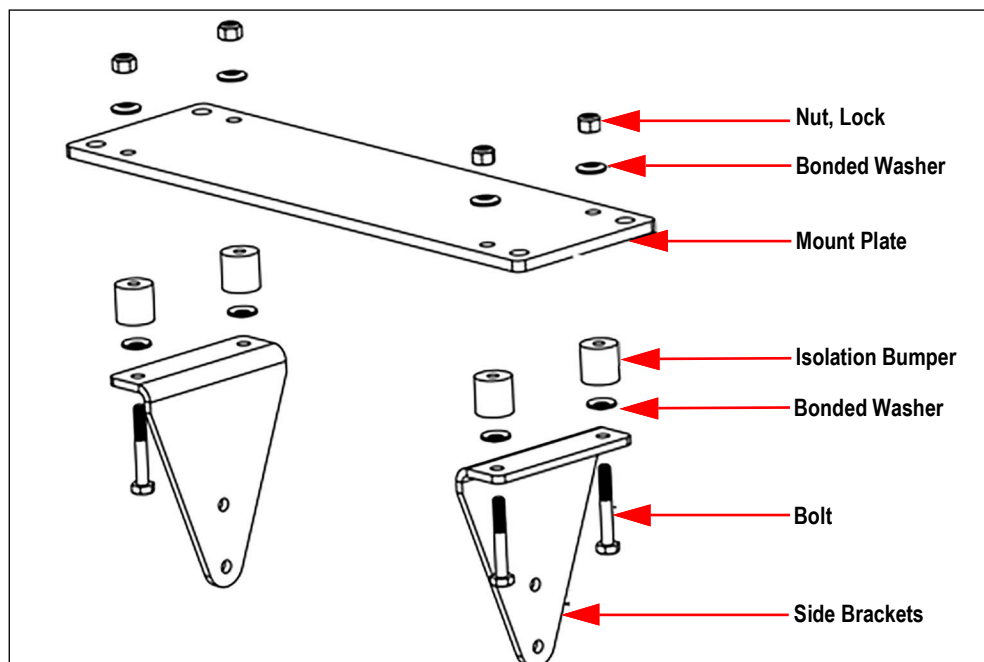

Figure 2-10. Mount Kit (PN 131630)
1. Install side brackets to the mount plate, using isolation bumpers and hardware (Figure 2-10).